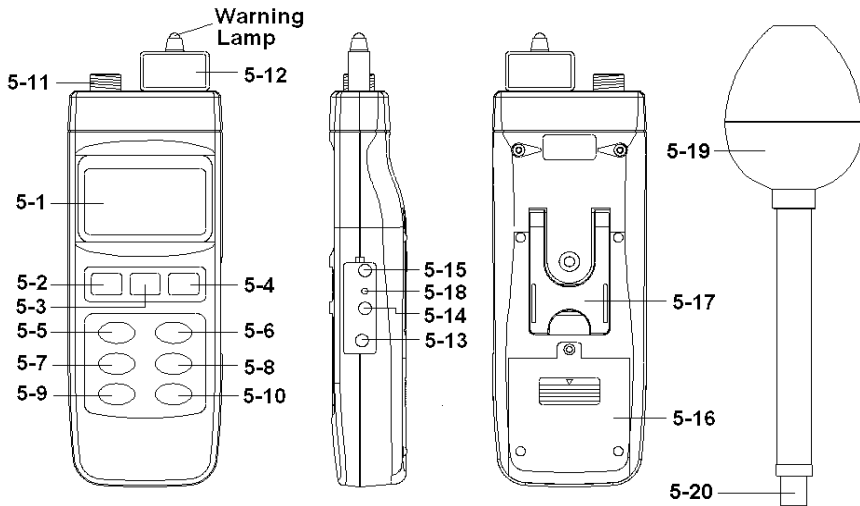

Fig. 1
- 2) After select convenient the probe, then plug in the exclusive " Probe Memory Card " (5-12, Fig. 1) into the front end socket of meter.
- * Make sure to use the " Frequency Team Button " (5-5, Fig. 1) to select the convenient frequency value of measuring object.
After inserting the " Probe card " (5-12, Fig. 1) and connecting probe's plug into the " Probe Input Socket " (5-11, Fig. 1), use " Unit Button " (5-6, Fig. 1) to select the " V/m, W/m², mW/cm² ".
- 1) Use the " Freq. Team Button " (5-5, Fig. 1) to select the approx. measuring object frequency value.
- 2) Make sure to use the " Frequency Team Button " (5-5, Fig. 1) to select the convenient frequency value of measuring object. However if you don't know the exact information, the meter will default to 1 GHz (EP-03H probe) or 1 MHz (EP-04L probe) after power on.
- 1) Power off the meter, use two fingers to press the " Alarm Button " (5-8, Fig. 1) and the " Logger Button " (5-10, Fig. 1) together continuously, then power on the meter by press the " Power Button " (5-2, Fig. 1). After power on, release all the fingers.
- 2)* Press the " Unit Button " (5-6, Fig. 1) continuously and > 2 seconds, the bottom display will show X_axis , then release the button, the upper display will show the EMF value of X direction.
- * Press the " Unit Button " (5-6, Fig. 1) continuously and > 2 seconds, the bottom display will show X_axis , then release the button, the upper display will show the EMF value of X direction.
- * Press the " Unit Button " (5-6, Fig. 1) continuously and > 2 seconds, the bottom display will show " V/m " , then release the button, the upper display will show the total EMF value of XYZ direction (refer page 8).
- 1) Press the "Alarm Button " (5-8, Fig. 1) once to start the alarm function, while the " units " symbol will flash on the display.
- 2) Press the " Alarm Button " (5-8, Fig. 1) once again to stop the alarm function.
- 3) Press the " Alarm Button " (5-8, Fig. 1) continuously and over 2 seconds, the "Alarm low limit value " will indicate on the lower display, use the " ▼, ▲ Buttons " to adjust the desiring low limit value.
- 4) Press the " Enter Button " (5-4, Fig. 1) will save the low limit value and going to adjust the " High limit value, procedures will similar as above.
- 5) After finish the " High limit value " adjustment, press the " Enter Button " (5-4, Fig. 1) will save the high limit value and going to adjust the alarm Hysteresis value, procedures will similar as above. Upon finish the alarm " Hysteresis value " adjustment, press the " Enter Button " (5-4, Fig. 1) will save the data.
- 6) Press the " ESC Button " (5-3, Fig. 1) to finish alarm setting procedures.
During the measurement, press the " Hold Button " (5-3, Fig. 1) once will hold the measured value & the LCD will indicate a " HOLD " symbol.
- * The data record function records the maximum and minimum readings. Press the " REC Button " (5-4, Fig. 1) once to start the Data Record function and it will be a " REC " symbol on the display.
- a) Press the " REC Button " (5-4, Fig. 1) once, the " REC MAX " symbol along with the maximum value will appear on the display.
Press the " REC Button " (5-4, Fig. 1) once again, the " REC MIN " symbol along with the minimum value.
If intend to delete the maximum (Minimum) value, just press the " Hold Button " (5-3, Fig. 1) once, then the display will show the " REC " symbol only & execute the memory function continuously.
- b) To exit the memory record function, just press the " REC Button " 5-4, Fig. 1) 2 seconds continuously at least. The display will revert to the current reading.
Press the " Peak Hold Button " (5-7, Fig. 1) once to latch peak value on the display , press once again to defect.
- a) If press the Logger Button " (5-10, Fig. 1) once will show the sampling time value on the bottom left display then disappeared.
- b) Press the " REC Button " (5-4, Fig. 1) once to start the Data Record function and it will be a " REC " symbol on the display.
Press the " Logger Button " (5-10, Fig. 1) once to start the Auto Data Logger function, at the same the bottom right display will show the indicator " Recording.... ", now the Data Logger function is executed. The upper display will show " DATA " indicator along with " REC " marker.